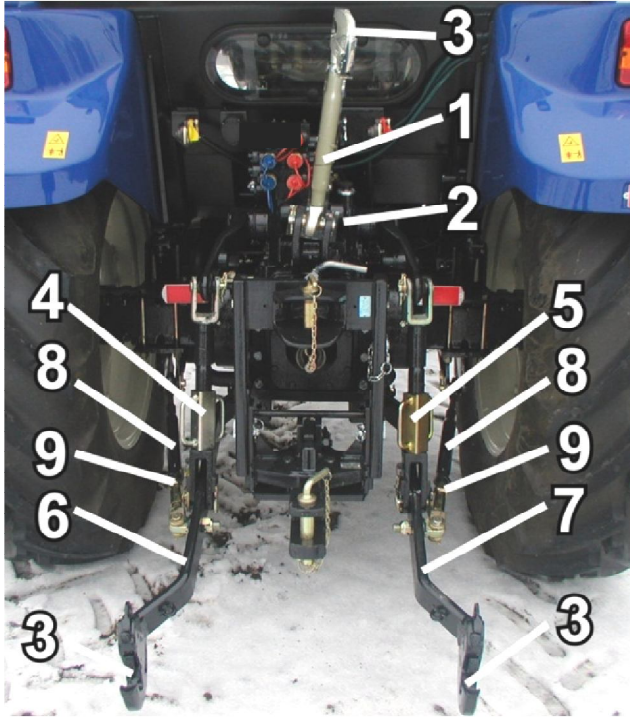

Fig. 4.6.1. Three-point linkage
The tractor hydraulic lift system with three-point linkage (see Fig. 4.6.1 and 4.6.3) facilitates control of implements and machines from operator's place.
- move back the tractor to the implement aligning the ends of lower links (3 - Fig. 4.6.1) with the implement hitch pins,
- depending on the implement, attach the top link (2 - Fig. 4.6.1) to a selected hole of the lift rocker and then to the implement cross shaft adjusting its length as necessary,
- adjust the stabilizer bars for side swing (Fig. 4.6.1),
To lengthen or shorten the stabilizers use tube nut (8 - Fig. 4.6.1) with handle.
After setting length of both stabilizers secure the nut with lock nut (9 - Fig. 4.6.1).
Apart from the three-point hitch (Fig 4.6.1), the machines and implements can be attached to: